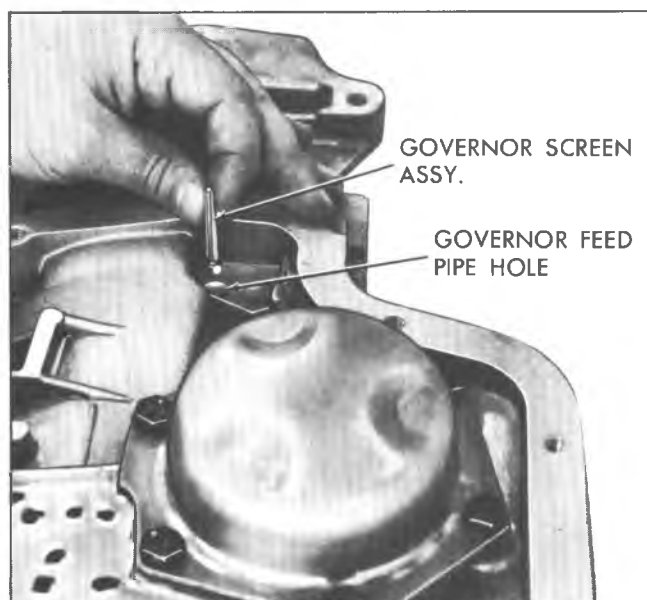

Fig. 150T-Installing Governor Screen Assembly
2. Install governor screen assembly, open end first, into governor feed pipe hole in case (hole nearest the center of the transmission) (Fig. 150T).
NOTE: If transmission is in vehicle, before installing the control valve assembly and governor pipes as outlined in Step 3 below, insert the governor screen, closed end first, into governor feed pipe. (This pipe locates in the governor feed pipe hole in the case nearest the center of the transmission). SEE figure 150T.